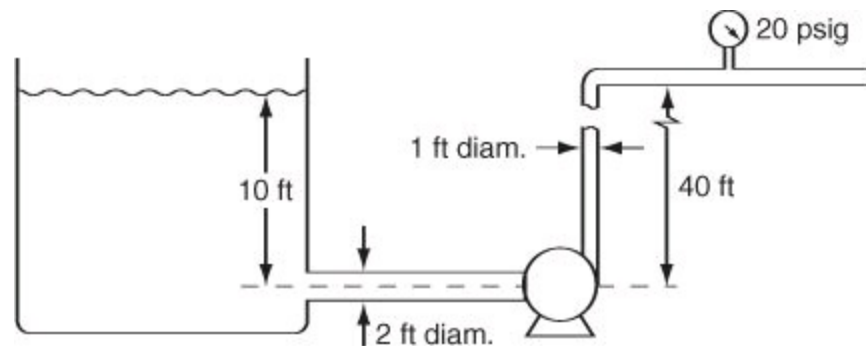

Figure SAT14.3P1
1. Water is pumped from a very large storage reservoir, as shown in Figure SAT14.3P1, at the rate of 2000 gal/min. Determine the minimum power (i.e., that for a reversible process) required by the pump in horsepower.